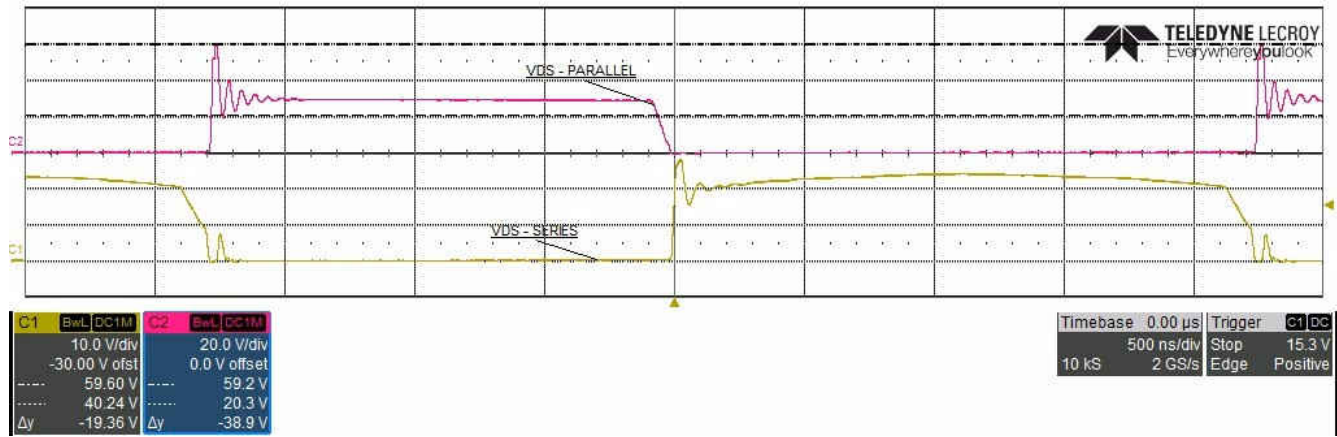

Figure 2-2. Switching Waveform
2. Figure 2-2 shows a switching waveform. The best practice is to show at least one full switching period. Optimal pictures show at least one but not more than three switching periods. The less switching periods shown the more detail can be seen in a single period.
Oscilloscopes also offer filtering of the probes. Figure 2-2 shows that both C1 and C2 have a *BWL* icon. This indicates that bandwidth limiting is turned on. Many scopes offer filtering for 20 MHz, 200 MHz, and no filtering at all. These filters act as low-pass filters at these set frequencies. Noise from around the lab can be introduced into the scope, so sometimes it is useful to filter that noise inside the oscilloscope itself (if checking if a MOSFET is switching, checking a start-up or shutdown, and so forth). However, when checking a maximum voltage on a MOSFET, or investigating a voltage spike, remove bandwidth limiting. Noise or real, it is critical to find the maximum voltage, so remove bandwidth limiting. If you are unsure, capture both. It is a simple setting change.